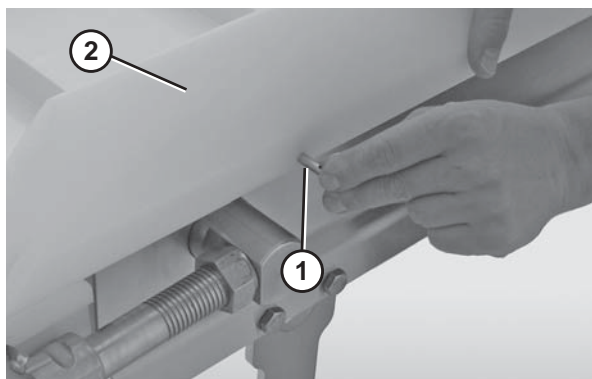

Figure 46
1. Remove the pull pins (Figure 46, item 1) that connect the guide (Figure 46, item 2) to the frame.